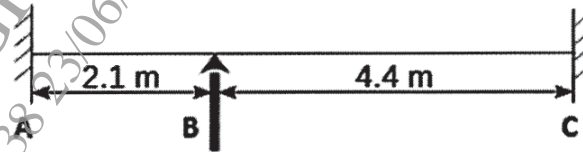

Fig. 2
- Q4)** Design the beam A-B-C shown in Fig. 2. The load on the beam may be considered as  $12 \text{ kN/m}$ . Design the beam using M-20 grade concrete and Fe-500 grade of steel. Sketch the details of reinforcement. [18]